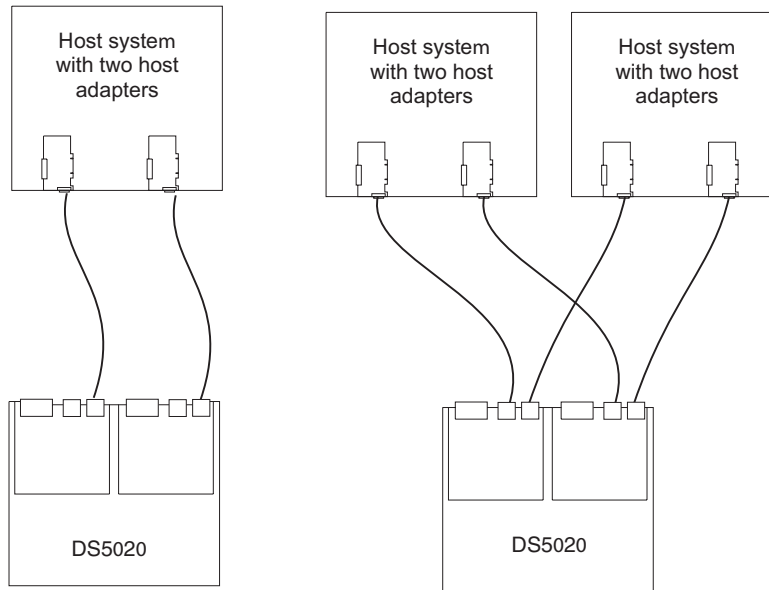

Figure 56. Examples of redundant host direct attached Fibre Channel SAN configurations
- Redundant host direct-attached configurations, as shown in Figure 56 on page 88